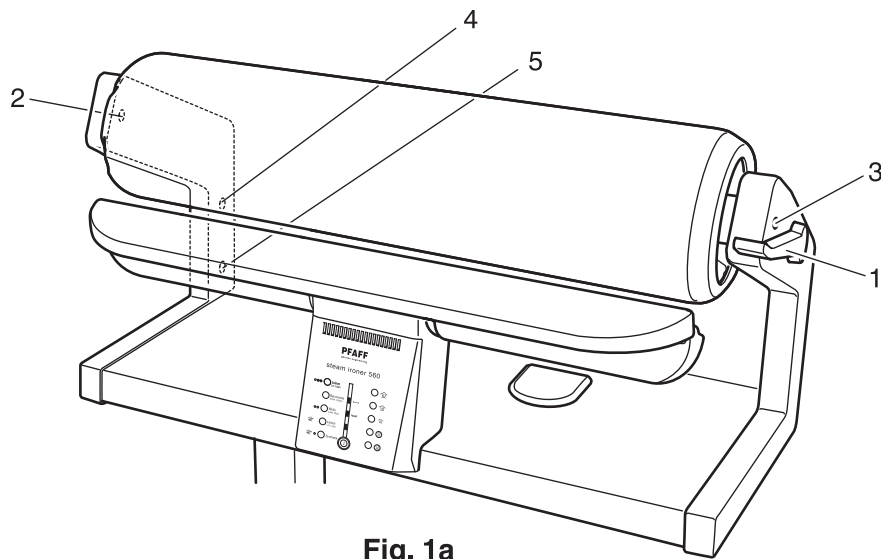

Fig. 1a
- Push lever 1 to the back. Loosen set screw in the lever and pull out the lever (fig. 1a).